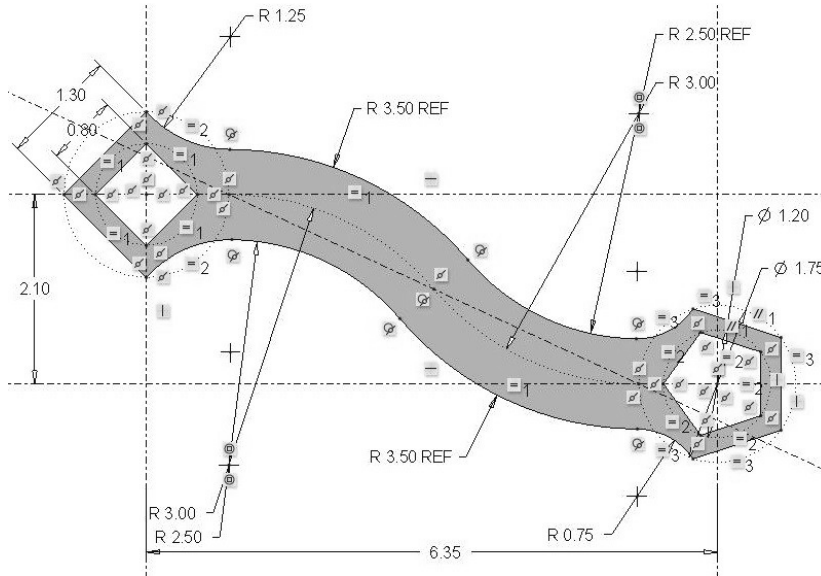

Figure 3-80 Problem 11—Special S Wrench
3.11 Challenge problem - Draw the "Special_S-wrench" (Figure 3-80). Design Intent — All arcs are tangent to each other and the edges of the two end shapes. The diamond shape is 1.30 inches per side. The outer pentagon fits inside a circle of 1.75 inches in diameter. The inner pentagon uses a 1.20-inch diameter circle. The 3-inch radius centerline is tangent at both ends and at its midpoint. The 0.75, 2.50, and 3.50 radius arcs are tangent to each other. (>File>Options>Sketcher, change to 2-decimal places before sketching.)